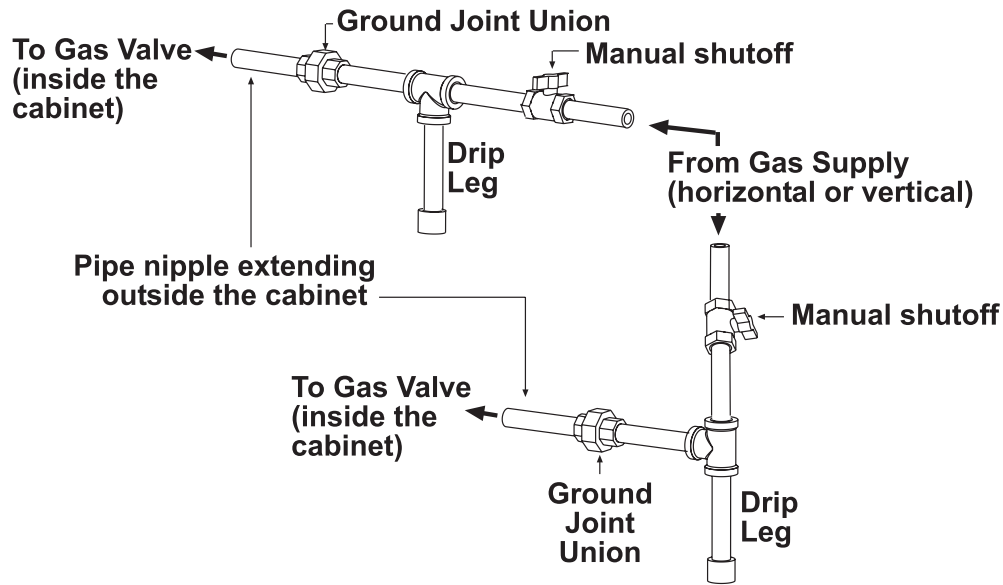

Figure 24. Gas Connections
- Gas connections are shown in Figure 24 and gas connections sizes are listed in Table 16.
- Install a ground joint union and manual shutoff valve upstream of the unit control system. The 1/8-inch plugged tapping in the shutoff valve provides connection for the supply line pressure test gauge. *The National Fuel Gas Code* requires the installation of a trap with a minimum 3-inch drip leg. Local codes may require a longer drip leg, typically 6-inch (see Figure 24).